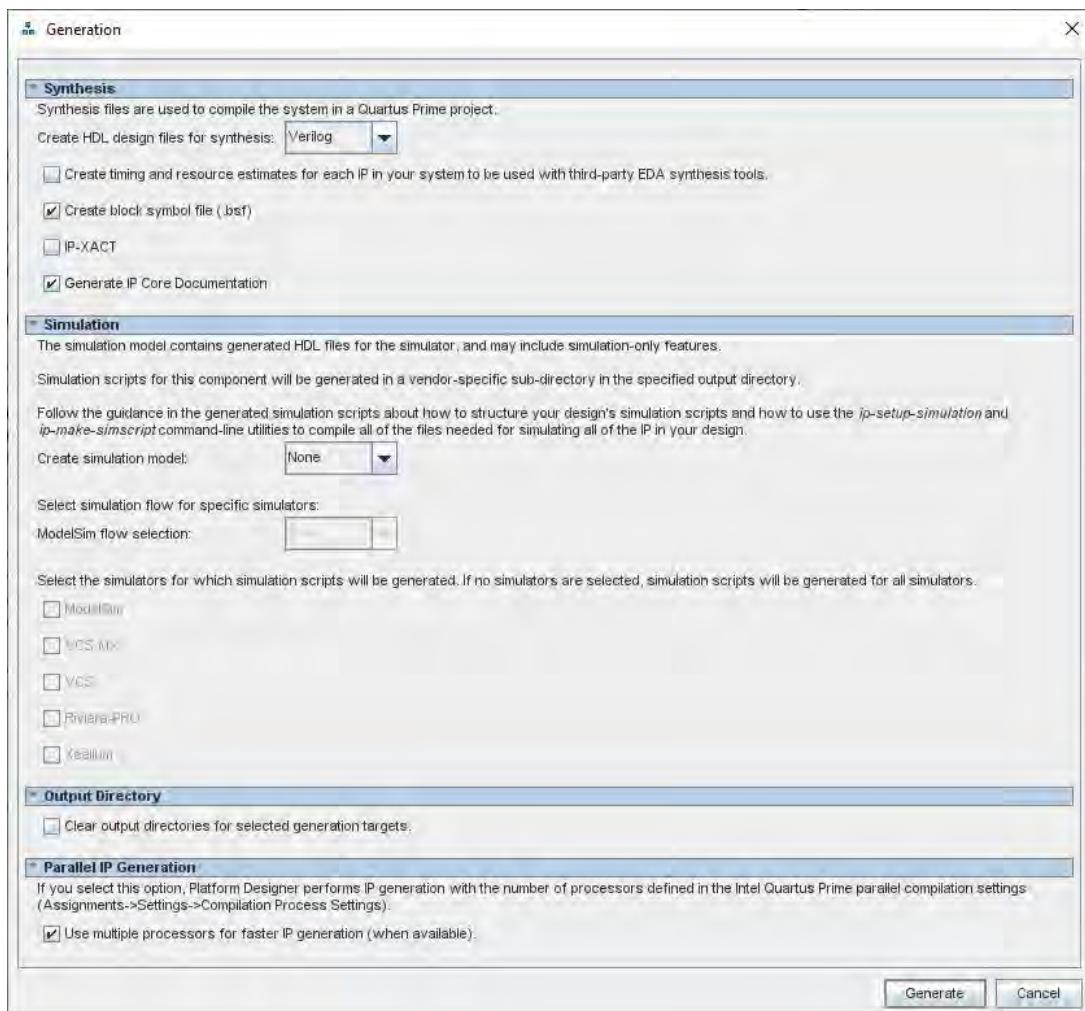
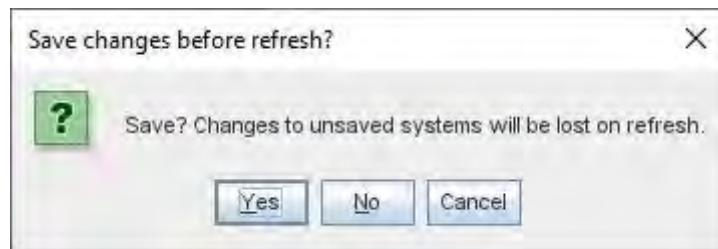

Figure 2-27 Generate Platform Designer
Figure 2-28 Save changes
3. Click **Generate > Generate HDL** and then pop a window as shown in Figure 2-27. Click **Generate** and then pop a window as shown in Figure 2-28. Click **Save** and the generation start.